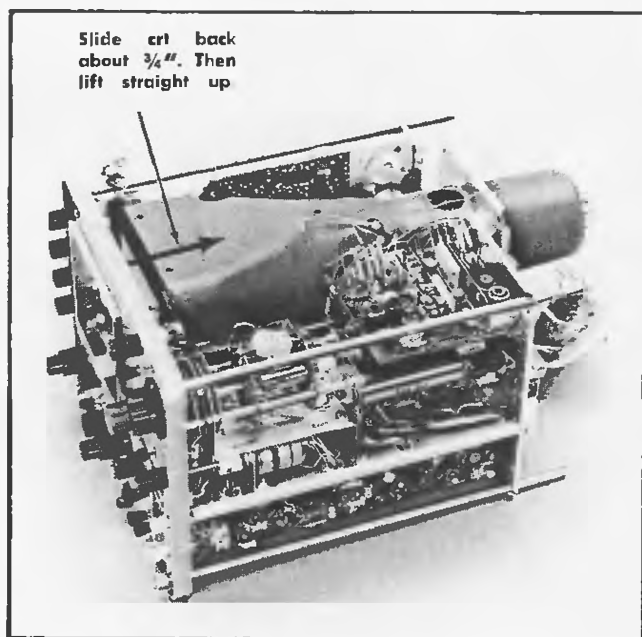

Fig. 4-5. Removing the cathode-ray tube.
11. Slide the CRT assembly to the rear of the instrument until the shield clears the mounting studs. Then, lift the CRT assembly straight up and out of the instrument (see Fig. 4-5).